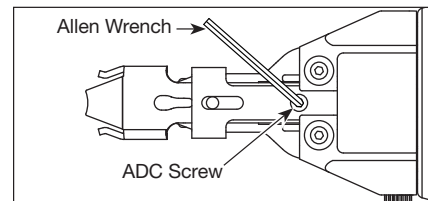

Figure 22
1. With the fuel cell, battery, and fasteners removed, loosen the adjustable depth control (ADC) socket head cap screw with 4mm allen wrench (see Figure 22).